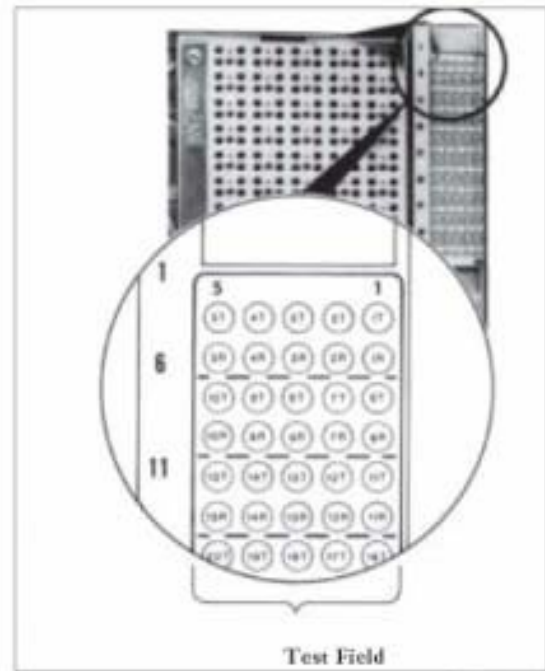

Figure 16
- 13.2 Test points are connected internally to the OP terminal fields pins, and subsequently, to the outside plant cable, with a separate connection for the tip and ring of each pair. Every five terminal pairs are marked in black, 1,6,11, etc., along the right edge of the test field. Terminal pairs are numbered from left to right (5,4,3,2,1). The upper pin of the pair is the tip connection; the lower pin is the ring connection (Figure 16).